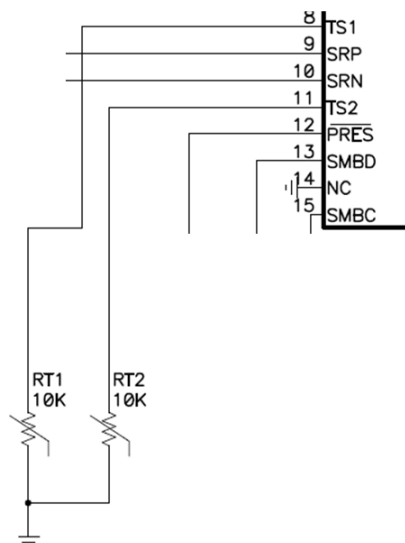

Figure 18. Thermistor Drive
For the bq3055 device, TS1 and TS2 provide thermistor drive-under program control (Figure 18). Each pin can be enabled with an integrated 18-k Ω (typical) linearization pullup resistor to support the use of a 10-k Ω at 25 $^{\circ}$ C (103) NTC external thermistor, such as a Mitsubishi BN35-3H103. The reference design includes two 10-k Ω thermistors: RT1 and RT2.